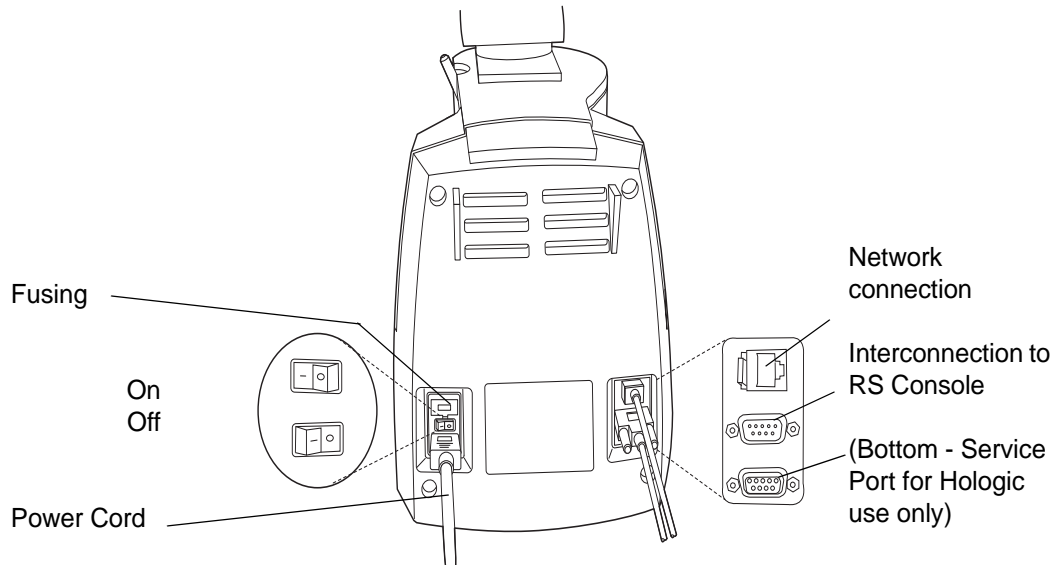

Figure 2-3 Review Scope, Rear
The power cord (refer to Figure 2-3) provides electrical power to the Review Scope. It must be plugged into a 3-prong grounded outlet. Disconnection from the power supply source is by removal of the power cord.
- The network connection (refer to Figure 2-3) connects the Review Scope to the hub, enabling communication to the Server located in the Image Processor Controller.
- The service port (refer to Figure 2-3) is to be used only by trained Hologic personnel for service and diagnostic purposes.
The network connection cable from the Server snaps into an available port on the hub or switch. Another cable goes from the hub to the Review Scope, snapping into the connection jack at the top port on the rear of the Scope. (Refer to Figure 2-3.)